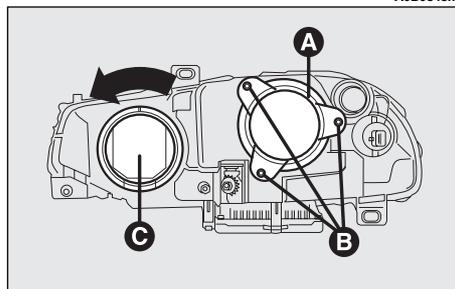
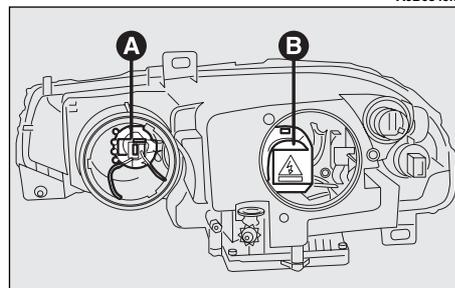
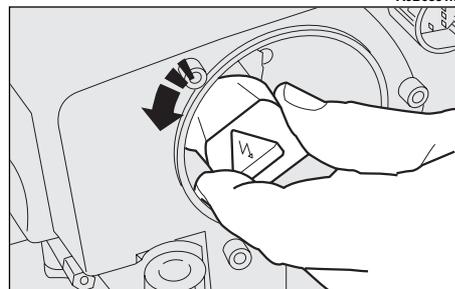

fig. 23
fig. 24
fig. 25
— Unscrew the three locking screw (B-fig. 23) and remove the protective (A) cover.
— Rotate the connector (B-fig. 24) of the Xenon lamp by a quarter of a turn counter-clockwise, as indicated in (fig. 25) and remove it.
- Refit the protective cover correctly (**A-fig. 23**).
- Turn the protective cover counterclockwise (**C-fig. 23**) in order to reach the high-beam headlight bulb (**A-fig. 24**).
- Refit the protective cover correctly (**C-fig. 23**).
- Turn the protective cover (**C-fig. 23**) counter-clockwise in order to reach the side-light bulb.